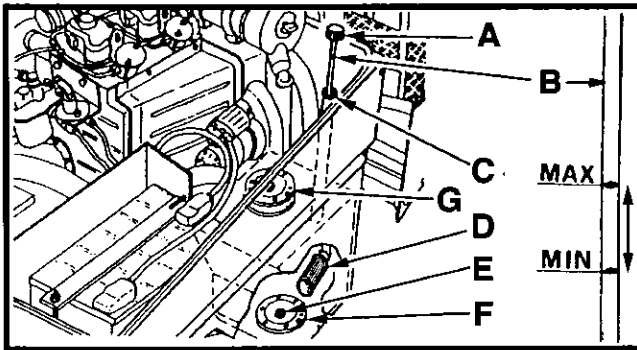

Figure 5-26 Hydraulic Tank
III. Clean Hydraulic Oil Return Strainer (G, Figure 5-26)
1. Place a container capable of holding at least 22 gallons (84 liters) under the drain plug (E, Figure 5-26).
2. Remove the drain plug ('E', Figure 5-26), and drain the hydraulic tank. Dispose of oil in accordance with local regulations.
3. Remove the cover plate ('F', Figure 5-26) located in the base of the hydraulic tank.
4. The Vibration/Steering System return strainer ('G', Figure 5-26), is located on the upper surface of the tank. Remove the filter cover to clean the inside strainer gauze..